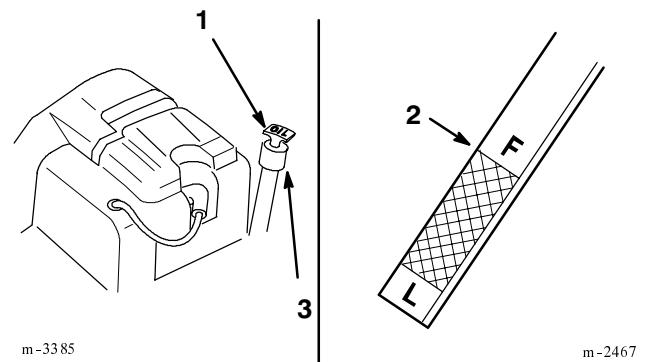

Figure 20
3. Clean around the oil dipstick (Fig. 20) so dirt cannot fall into the filler hole and damage the engine.
4. Pull the oil dipstick out and wipe the metal end clean (Fig. 20).
5. Push the oil dipstick fully into the filler tube (Fig. 20). Pull the dipstick out and look at the metal end. If oil level is low, slowly pour only enough oil into the filler tube to raise the level to the "FULL" mark.
6. Slowly pour approximately 80% of the specified amount of oil into the filler tube (Fig. 20). Now check the oil level; refer to Checking Oil Level, page 21. Slowly add additional oil to bring to “FULL” mark on dipstick.